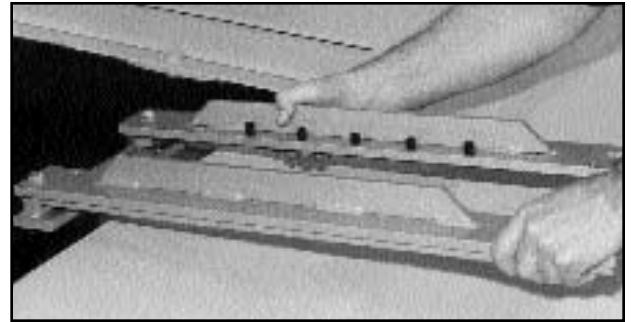

Figure 1
- 1) Position clamp mount on top of machine's treadway at corners of vehicle's center section. Clamp mount should be installed as shown in Figure 1.